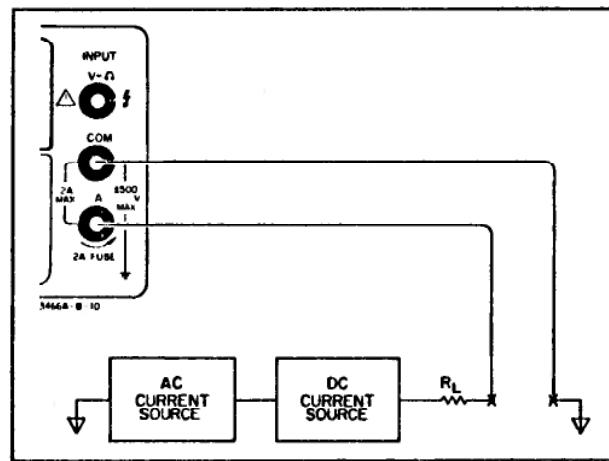

Figure 3-10. True RMS Current Measurement
- Connect test leads from the Multimeter A and COM terminals in series with the current under test as shown in Figure 3-10.